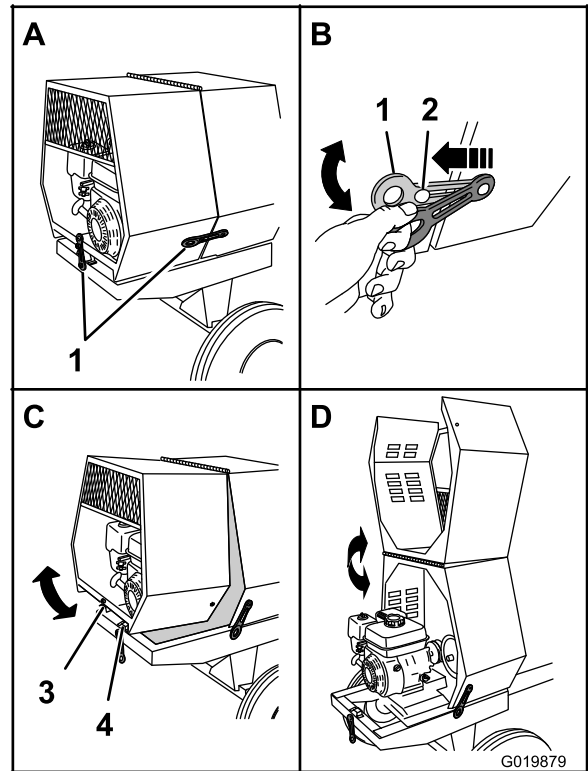

Figure 32
- At the side of the machine where the front cowl and rear cowl meet, grasp the ring of the latch and pull it off from the latch anchor on the rear cowl (Figure 32).
- At the back of the machine where the rear cowl meets the frame of the machine, grasp the ring of the latch and pull it off from the latch anchor on the cowl (Figure 32).
- Rotate the rear cowl up and forward until it is fully positioned on top of the front cowl (Figure 32).
- Rotate the rear cowl rearward and down until the receiver at the bottom center of the cowl is aligned with the V-fitting and flush on the frame of the machine (Figure 32).
- Repeat step 3 on the opposite side of the machine (Figure 32).